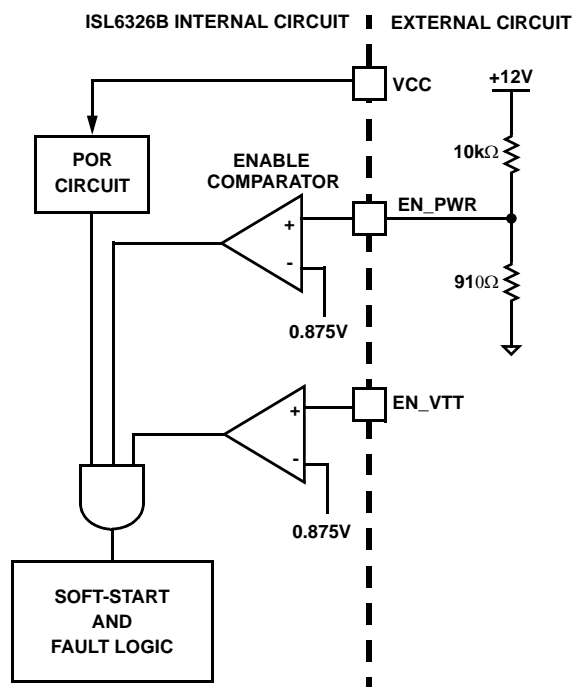

FIGURE 7. POWER SEQUENCING USING THRESHOLD-SENSITIVE ENABLE (EN) FUNCTION
2. The ISL6326B features an enable input (EN\_PWR) for power sequencing between the controller bias voltage and another voltage rail. The enable comparator holds the ISL6326B in shutdown until the voltage at EN\_PWR rises above 0.875V. The enable comparator has about 130mV of hysteresis to prevent bounce. It is important that the driver ICs reach their POR level before the ISL6326B becomes enabled. The schematic in Figure 7 demonstrates sequencing the ISL6326B with the